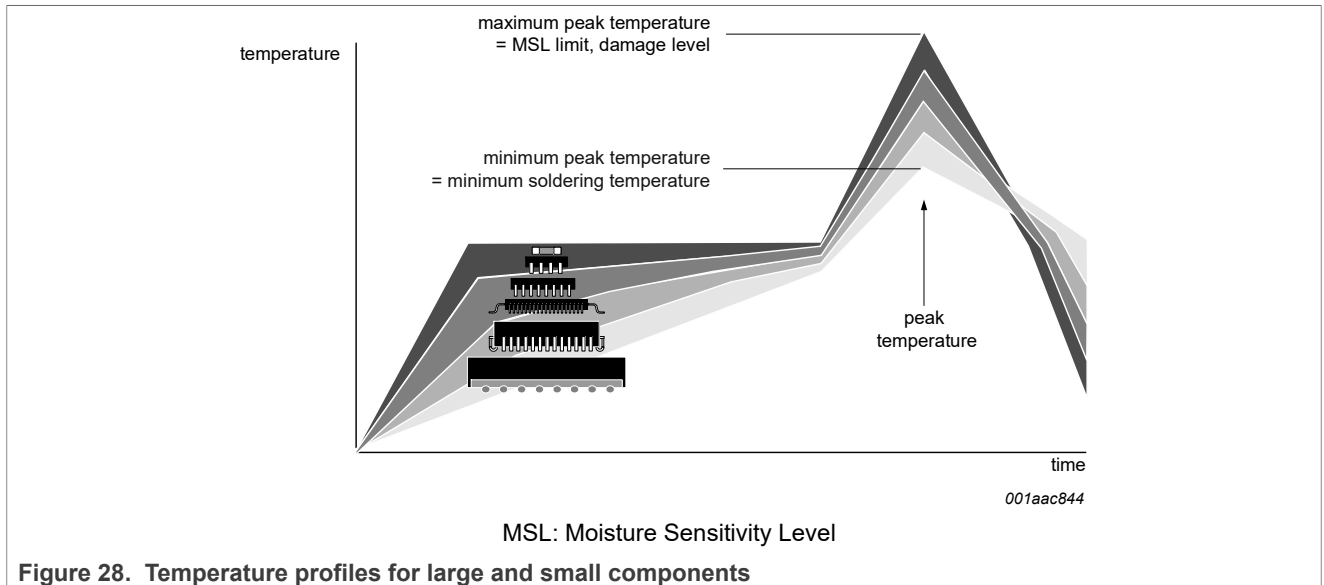

Figure 28. Temperature profiles for large and small components
- Lead-free versus SnPb soldering; note that a lead-free reflow process usually leads to higher minimum peak temperatures (see Figure 28) than a SnPb process, thus reducing the process window
Studies have shown that small packages reach higher temperatures during reflow soldering, see Figure 28.